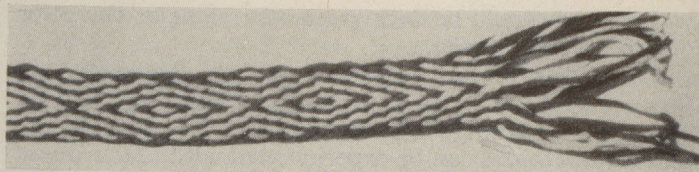

Fig. 23
5. *Arrows and Diamonds*—Fig. 23.
Diamond Pattern—Fig. 23.
This pattern is formed by reversing the direction of the arrows at certain crossings. In the sash shown in fig. 23, the reversals are made at each fourth crossing. To make the reversal, simply turn over the belt or sash, i.e., the upper series of threads is turned to become the lower series. After this, the weaving plan given above is followed.